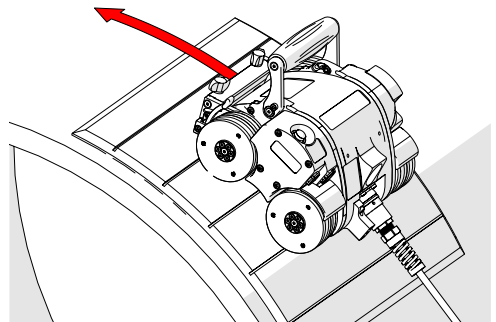
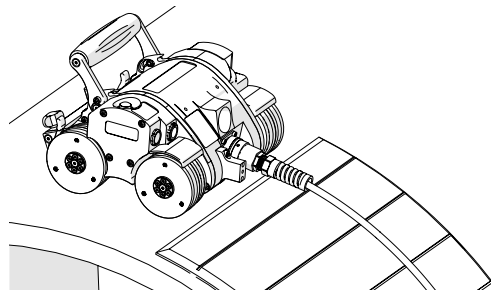

Fig. 223 - Drive crawler off the mat
Fig. 224 - Magnetized to surface
7. Ensure all four crawler wheels are held firmly against the installation/removal mat. While holding the crawler, use **Jog Mode** (see “Jog Mode” on page 99) to carefully drive the crawler (Fig. 223) off the installation/removal mat and onto the inspection surface (Fig. 224).